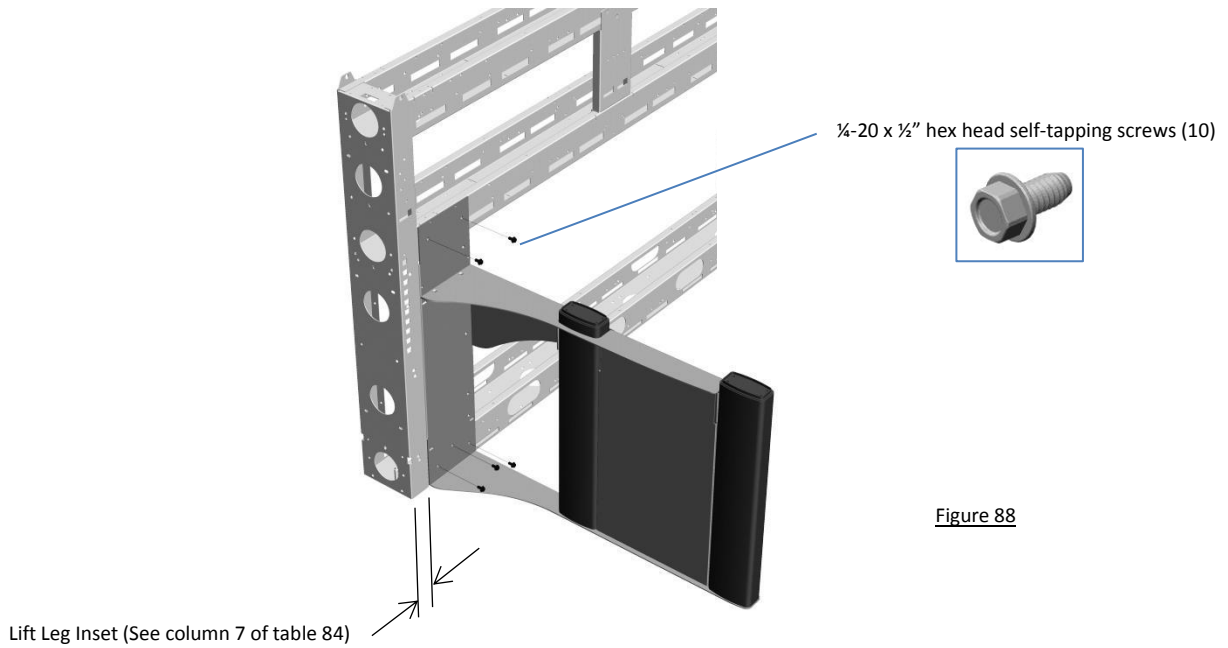

Figure 88
- b. Refer to column 7 in table 84 to determine the lift leg inset. Then attach the lift leg assembly to the core wall with (5) ¼-20 x ½" hex head self-tapping screws, as shown in figure 88. (A 2-1/2" inset is shown in this example.)